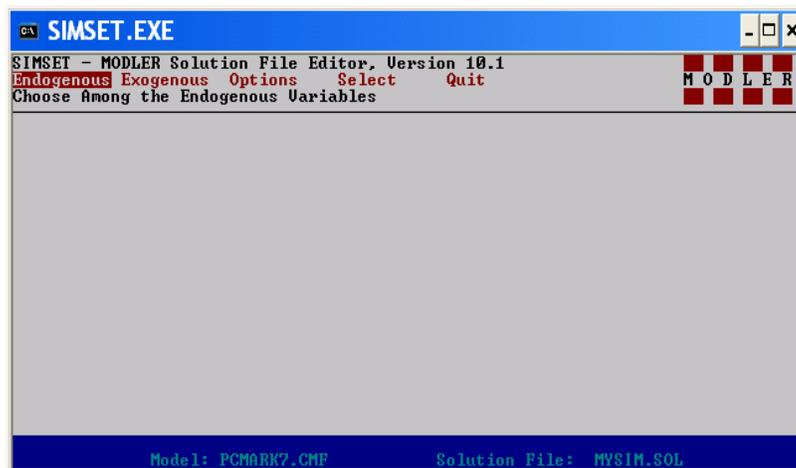

Figure 22. Opening Screen
The SimSet opening screen is shown in Figure 22. In order to make selections, you can either use the left-right cursor keys to move the selector highlight left or right, then press the Enter key in order to confirm that selection. Subsequently, the Esc key allows you to return to previous menu levels, either after or before you make a change. Alternatively, you can use your keyboard to type the initial letter of the choices: (E)xogenous, (O)ptions, (S)elect, and (Q)uit. With the exception of the first, the effect of making each of these selections is described in the following sections of this chapter.